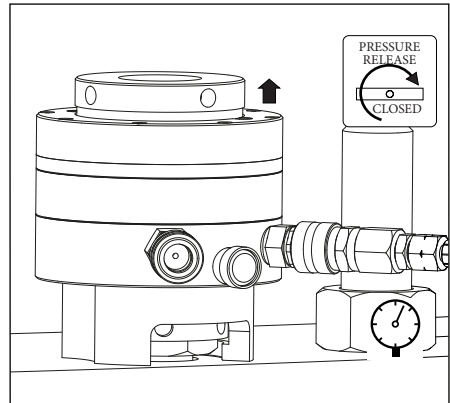

FIGURE 7, PRESSURIZING THE TENSIONER
- Be sure the pressure remains stable (not increasing or decreasing). Threads may be visible between the nut and the joint surface at each tensioner. See Figure 7.
18. When the “second pass” pressure “B” is reached, stop the pump. Recheck the oil pressure gauge after pump has stopped. Be sure the pressure remains stable (not increasing or decreasing). Threads may be visible between the nut and the joint surface at each tensioner. See Figure 7.